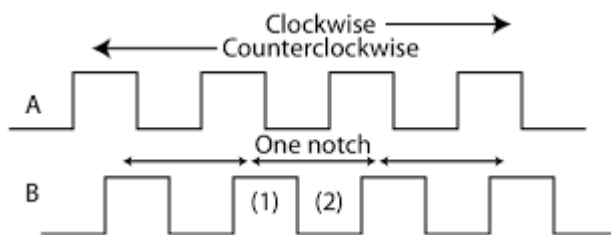

Figure 20 – Quadrature Encoder Output Signals
The encoder outputs two signals, A and B, according to Figure 20 below. The two signals vary over four states (A,B): (0,0) (1,0) (1,1) (0,1). Depending on rotation direction the four states are traversed from left to right or right to left.
Another method to detect rotations is to detect negative edges on signal A. The level on signal B (high or low) at this point in time determines the direction. Position (1) in Figure 20 above represents the counterclockwise direction (B is high) and (2) represents the clockwise direction (B is low).